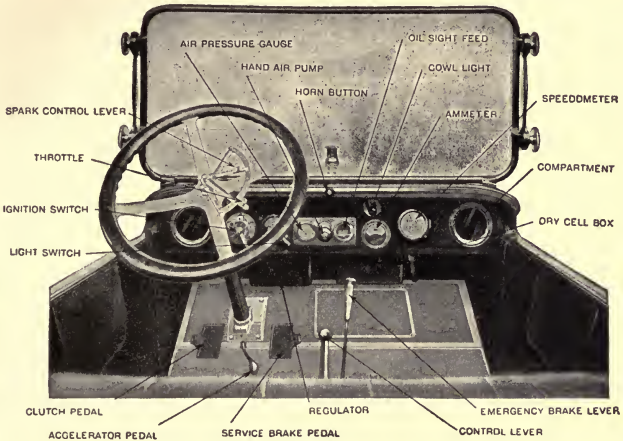

FIG. 32.—Left-hand drive, center control.
20. Control Systems.—Figures 32 and 33 show the two prevailing control systems. Figure 32 shows the left-hand drive and center control system generally used on cars with sliding gear transmissions.